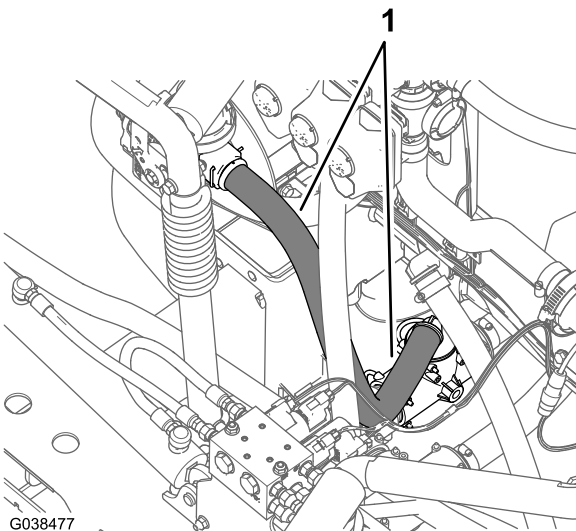

Figure 74
3. Route the sprayer supply hose down and toward the T-fitting located forward of the pressure-relief valve as shown in Figure 74.